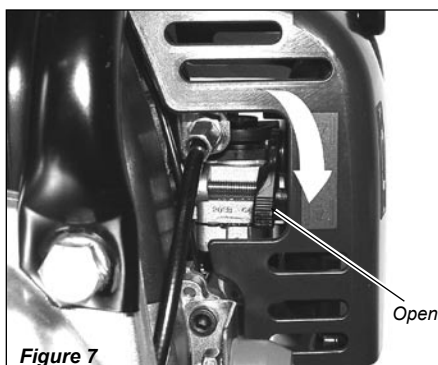

Figure 7
6. When the engine starts, slowly move the choke lever to the "OPEN" position. See Figure 7. (If the engine stops after the initial start, close the choke and restart.)